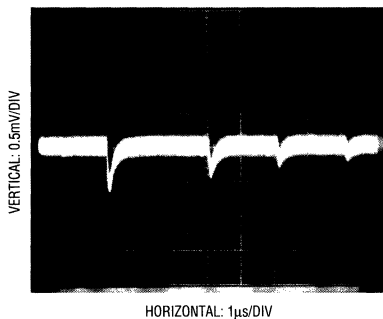

Figure 15. Adequate Reference Settling
1. Transients on the reference inputs caused by the capacitive switching currents must settle completely during each bit test (each 4 ACLK cycles). Figures 15 and 16 show examples of both adequate and poor settling. Using a slower ACLK will allow more time for the reference to settle. However, even at the maximum ACLK rate of 2MHz most references and op amps can be made to settle within the 2 μ s bit time. For example an LT1019 used in the shunt mode with a 10 μ F bypass capacitor will settle adequately. To minimize power an LT1004-2.5 can be used with a 10 μ F bypass capacitor. For lower value references the LT1004-1.2 with a 1 μ F bypass capacitor can be used.